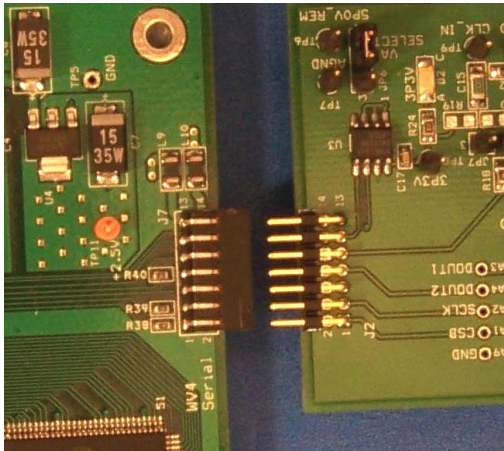
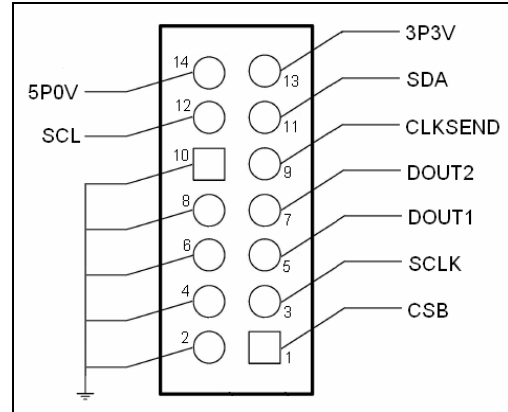

Figure 4: WV4 to ADC122S706 Connection
Figure 5: J2 (WV4S) Header Pin Out
7. Apply the signals to control the SPI interface at J2 or VIA1 to VIA4. See the evaluation board schematic (Figure 10) or the J2 header pin out (Figure 5) for more details.
3. Connect the **J2** header on the ADC122S706 evaluation board to the **J7** WV4 serial connector on the WV4 board. Refer to Figure 4 for the serial connection and Figure 5 for the J2 header pin out.